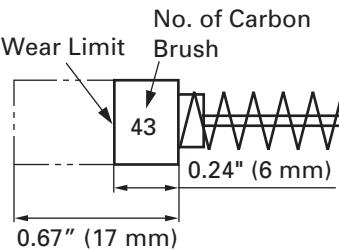

Fig. 30
## 4. Inspecting the carbon brushes (Fig. 30)
**NOTE:** Use HITACHI carbon brush No. 43 indicated in Fig. 30.